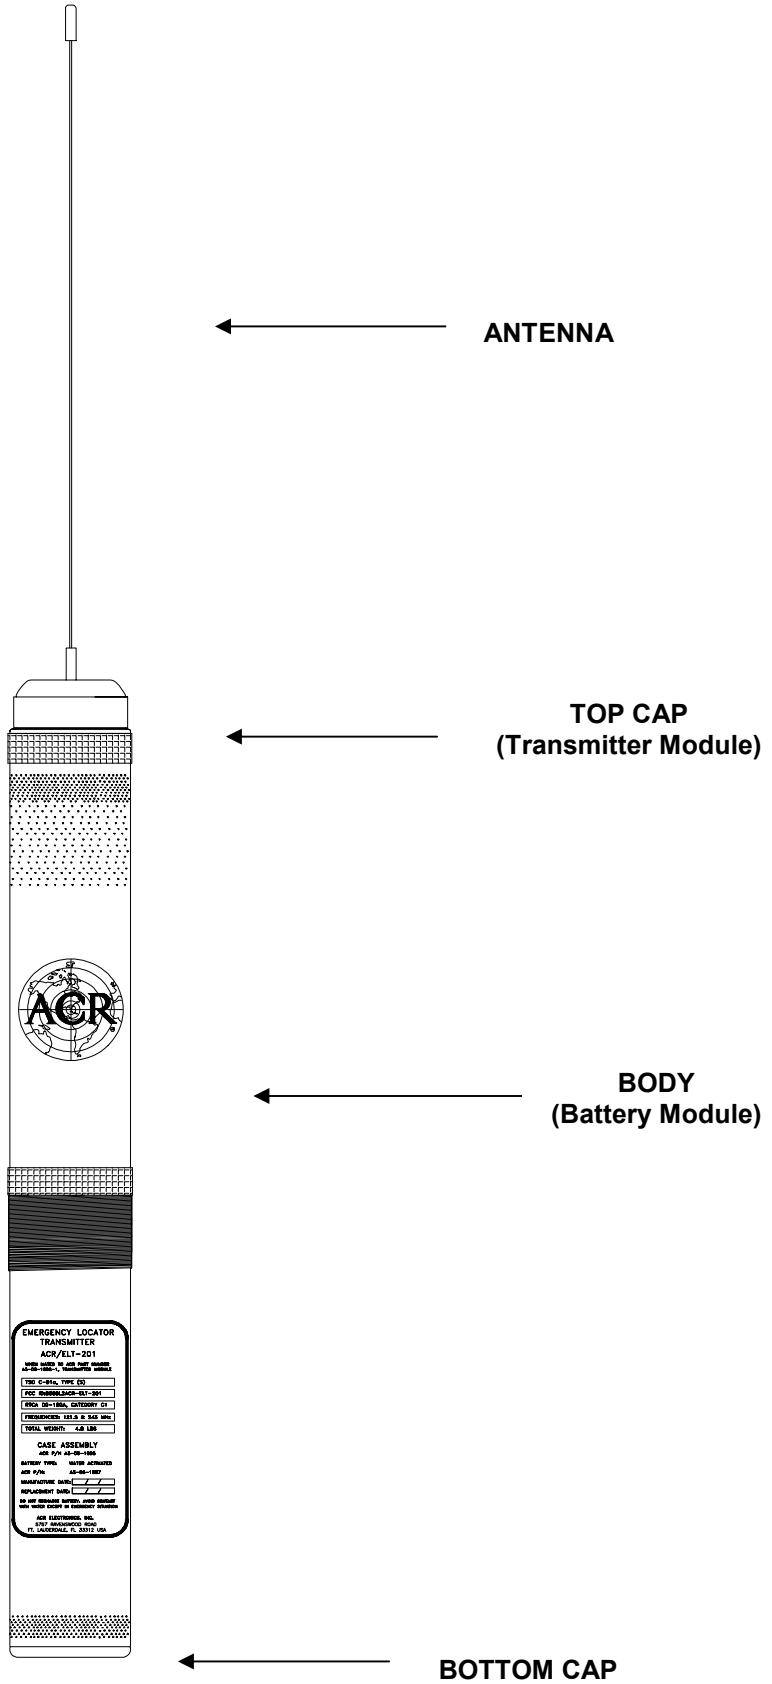

Figure 1
To pack the ELT with a life raft, bend the flexible antenna downward so that it lays flat against the body of the unit (see Figure 1). The unit is then ready to be packed.
- 1) Remove the unit from raft pack or bracket and allow the antenna to extend fully upright (see Figure 1).
To replace the ELT battery, obtain a replacement battery assembly, ACR P/N A3-06-2165, and a 1/8" hex key wrench. Proceed as follows (refer to Figure 1):